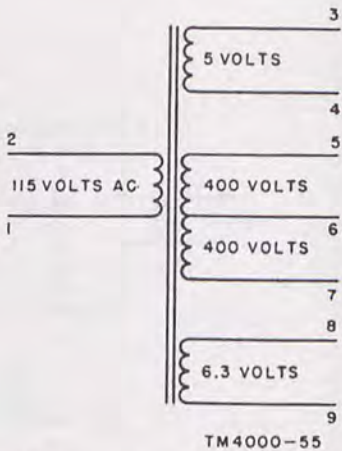

Figure 41. Power-transformer windings.
b. Refer to figure 41 for an example of a power-transformer-winding schematic diagram. The following chart shows the check points, normal readings, and the points to check for shorts.